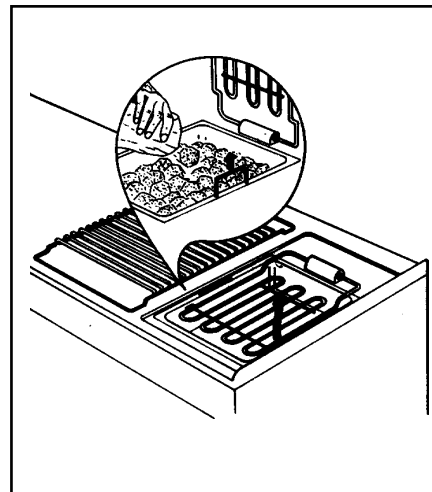

Fig. 2
- remove the grill above the container as illustrated in figure 2;
- lift the electrical resistance upwards as illustrated in figure 2;